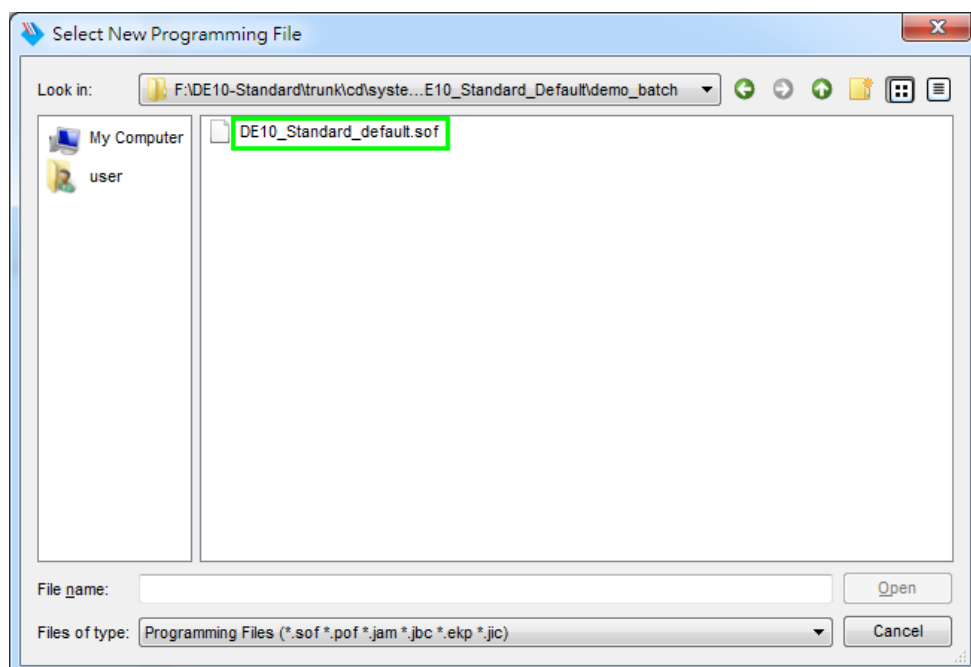

Figure 3-7 Select the .sof file to be programmed into the FPGA device
5. Select the .sof file to be programmed, as shown in Figure 3-7.